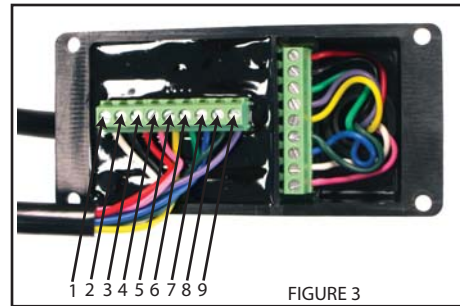

FIGURE 3
10. Feed wires through the supplied gaskets and bracket to terminal block that was disconnected in Step 1. Refer to Figure 3 for terminal block locations.